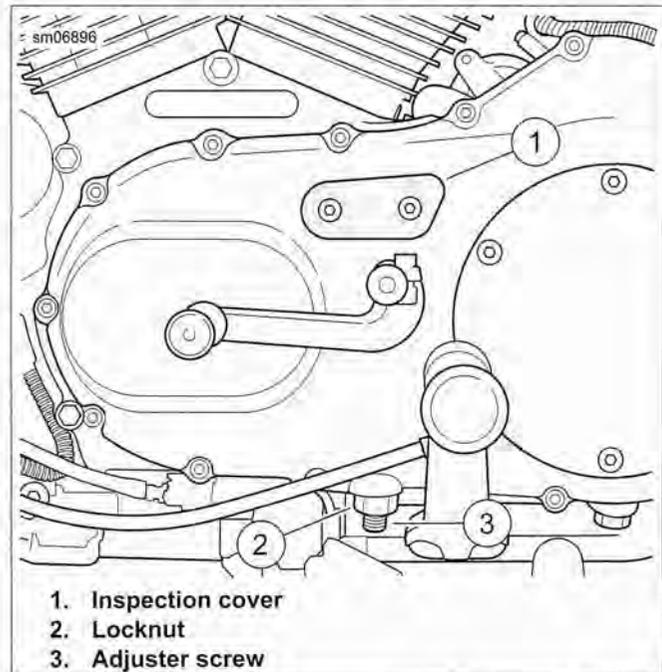

Figure 1-37. Primary Chain Inspection Cover and Adjuster
2. See Figure 1-37. Remove the primary chain inspection cover (1).
- a. See Figure 1-37. Loosen the locknut (2).
- b. With a hex key, turn the adjuster screw (3) clockwise to reduce freeplay or counterclockwise to increase freeplay.